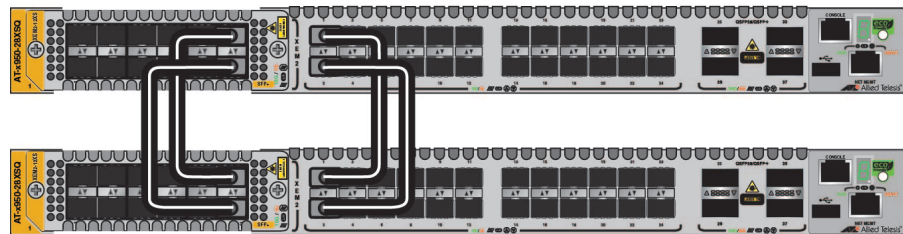

Figure 41. Unsupported Trunk with Both Base and XEM2 Line Card Ports
- ❑ Trunks cannot have both base ports and XEM2 Line Card ports. The unsupported trunk in Figure 41 consists of base 10G ports and ports on AT-XEM2-12XS Line Cards.